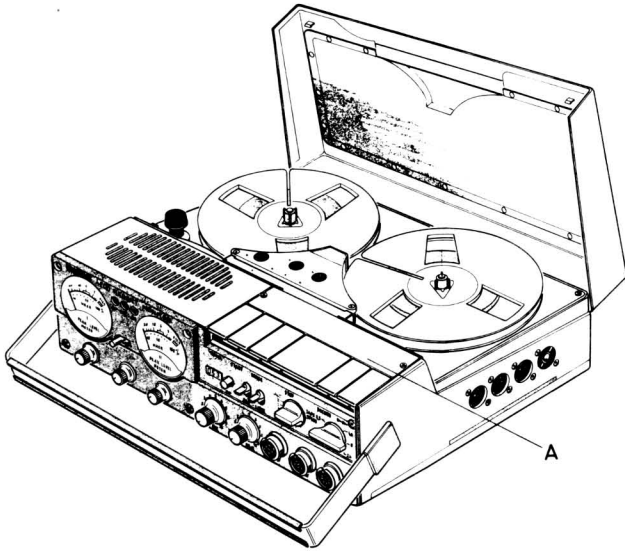
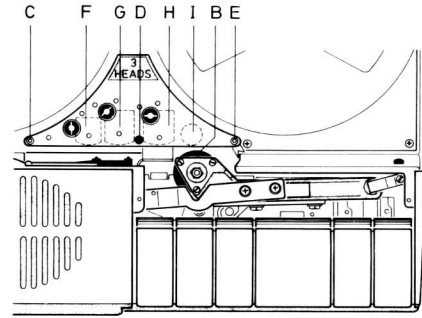

Fig. 8
Fig. 9
For cleaning, remove the cover (A) located directly behind the control keys (see Fig. 8). The pressure roller (B), tape guides (C), (D), (E) and tape heads (F), (G), (H) will then be easily accessible for cleaning with UHER Special Cleaning Kit Z 172 (see Fig. 9).